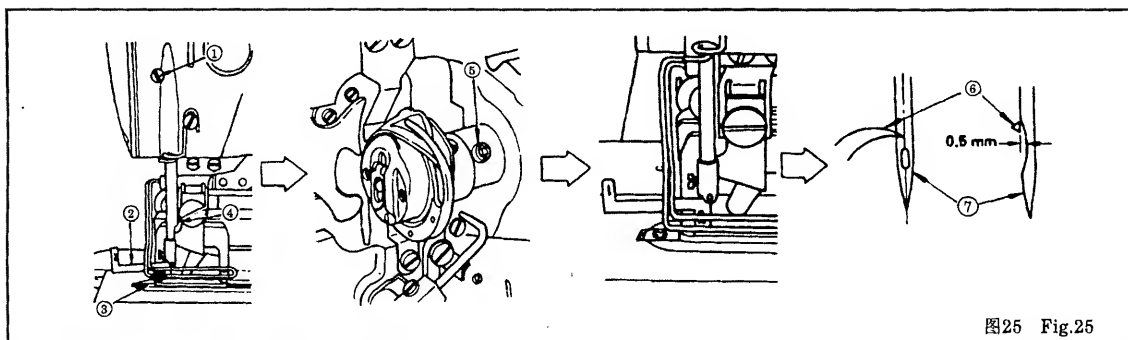

图25 Fig.25
①. When the pressure is not enough to prevent fabric from puckering, turn regulator ① clockwise.
22. 针与旋梭配合 图25
22. NEEDLE-TO-HOOK RELATION Fig.25